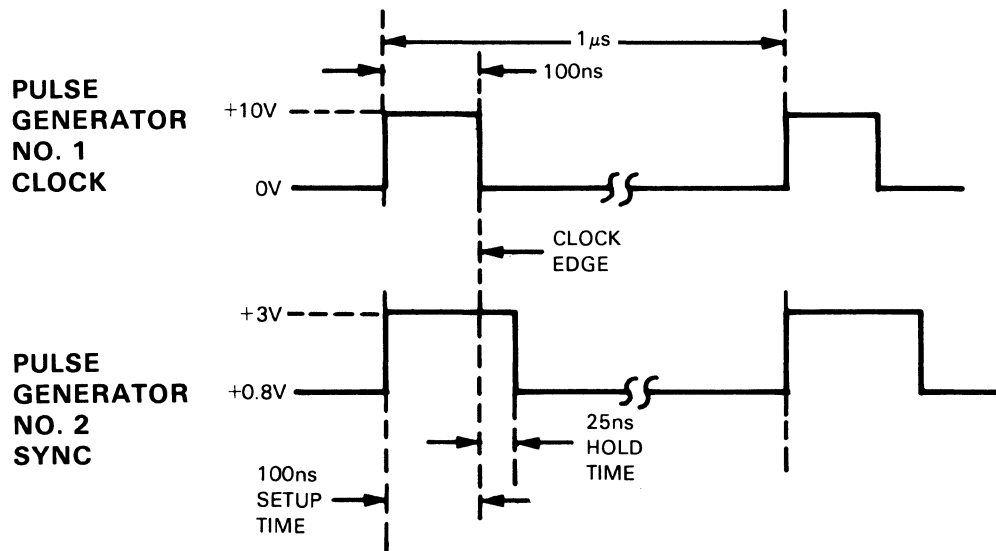

Figure 4-9. Sync Test Waveforms
- e. Adjust pulse generators for waveforms shown in figure 4-9.